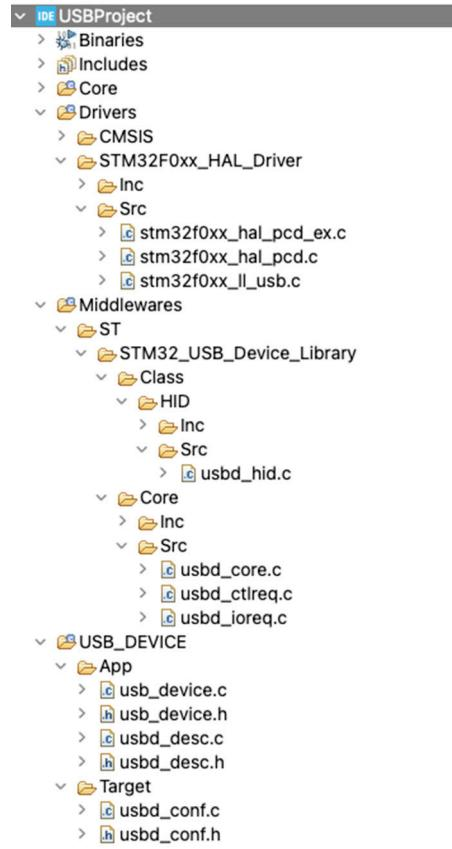
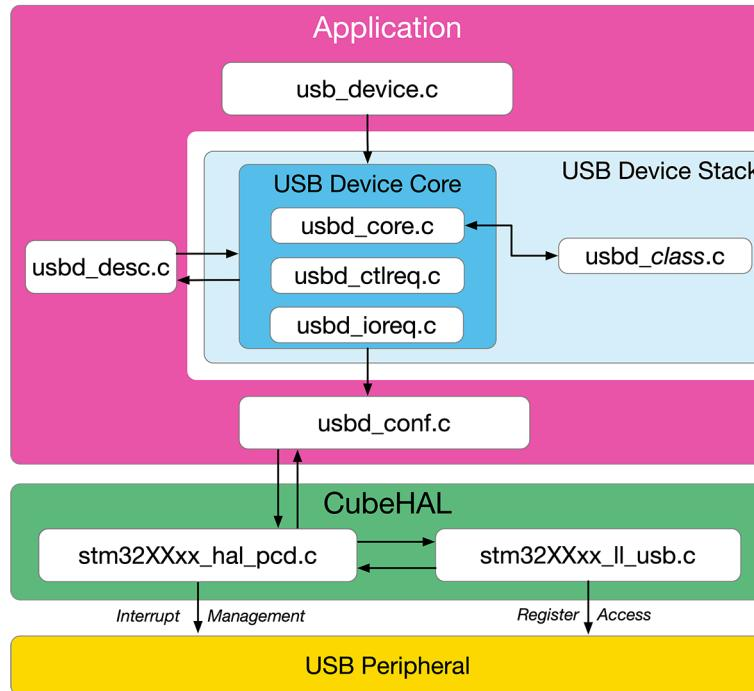

Figure 12: Structure of the generated project
Figure 13: Architecture of the generated application with STM32 USB Device Library
The **Figure 12** shows the new project structure once that CubeMX generates the code with the USB Device library and the wanted USB class¹⁰. At the same time, the **Figure 13** shows the whole application architecture: keep it on hands while reading the rest of this paragraphs.
- **Class/<class>**: this folder contains all C source and header files related to the selected USB Class. For example, in Figure 12 you can see the file `usbd_hid.c` containing all the necessary code to handle the HID class.